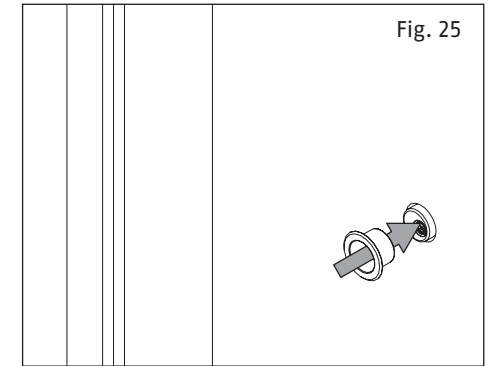

Fig. 25
3. Press the cylinder escutcheon firmly onto the door exterior (Fig. 25).